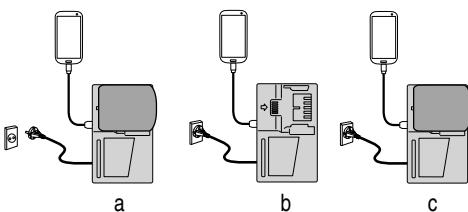

Fig. 12
(1) Select a charging method
- Charging a USB device by battery (Fig. 12-a)
- Charging a USB device from a electrical outlet (Fig. 12-b)
- Charging a USB device and battery from a electrical outlet (Fig. 12-c)